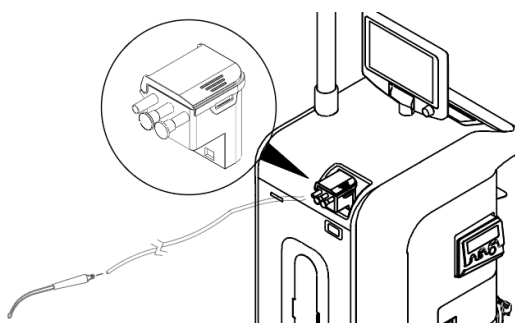

Figure 20 To Prepare for Fluid Suction
1. Align the Disposable Manifold tabs and insert a new (valid) Disposable Manifold into the Disposable Manifold receptacle. Push the Disposable Manifold straight into the receptacle until a click is heard (Figure 20). Confirm the new Disposable Manifold symbol (white) appears on the main control screen and a confirmation sound occurs.